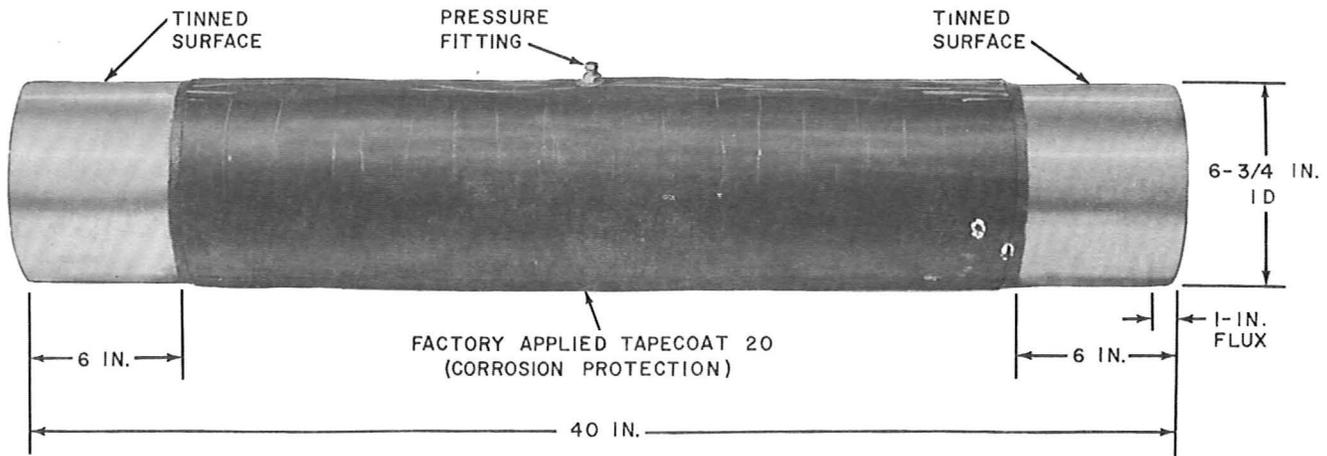

Fig. 1—B Steel Sleeve
2.01 The B Steel Sleeve (Fig. 1) consists of a steel tube equipped with a welded pressure fitting. The tube is 40 inches long and 6-3/4 inches inside diameter, weighs 30 pounds, and will withstand external crushing pressure up to 300 pounds per square inch (psi).